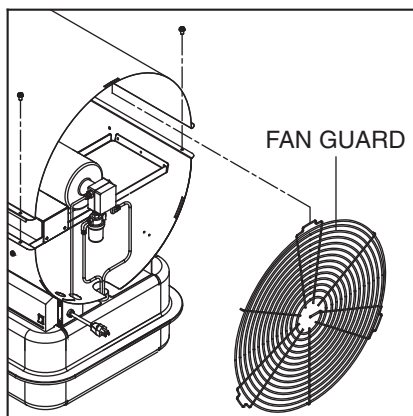

Figure 11. Remove Fan guard
- Remove fan guard (See Figure 11)